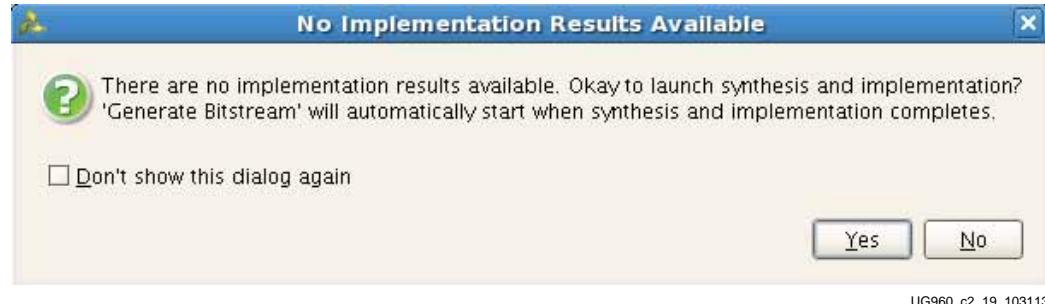

Figure 2-19: Launch Synthesis and Implementation
3. A dialog box appears. Click **Yes** to launch synthesis and implementation as shown in Figure 2-19.